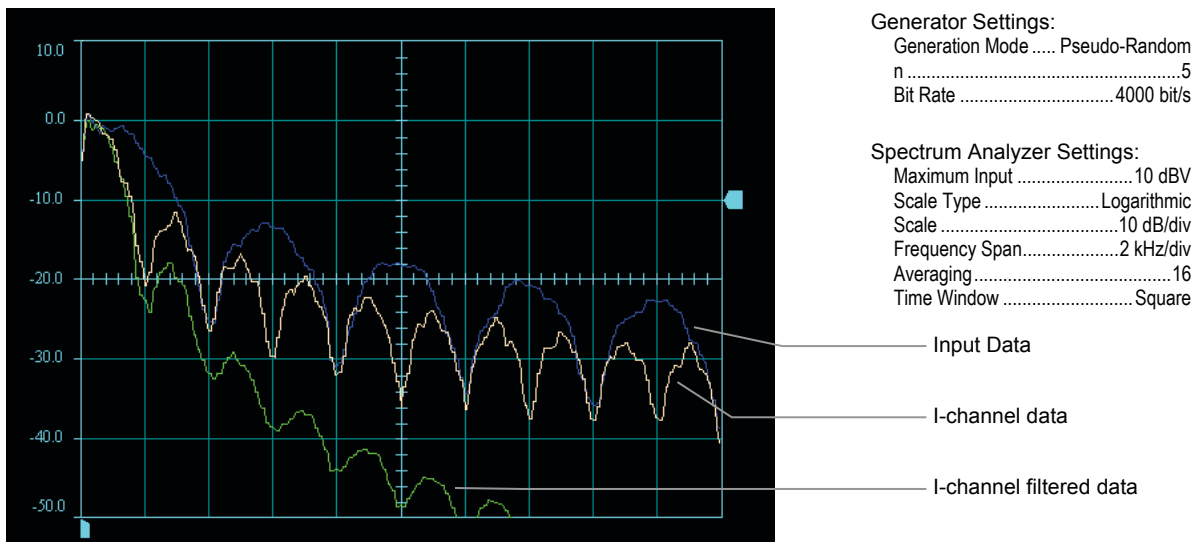

Figure 15. Spectra of input data and I-channel bipolar data.
18. Using a PRBS as input data to the modulator, use the Spectrum Analyzer to compare the spectra of the following signals (see Figure 15):